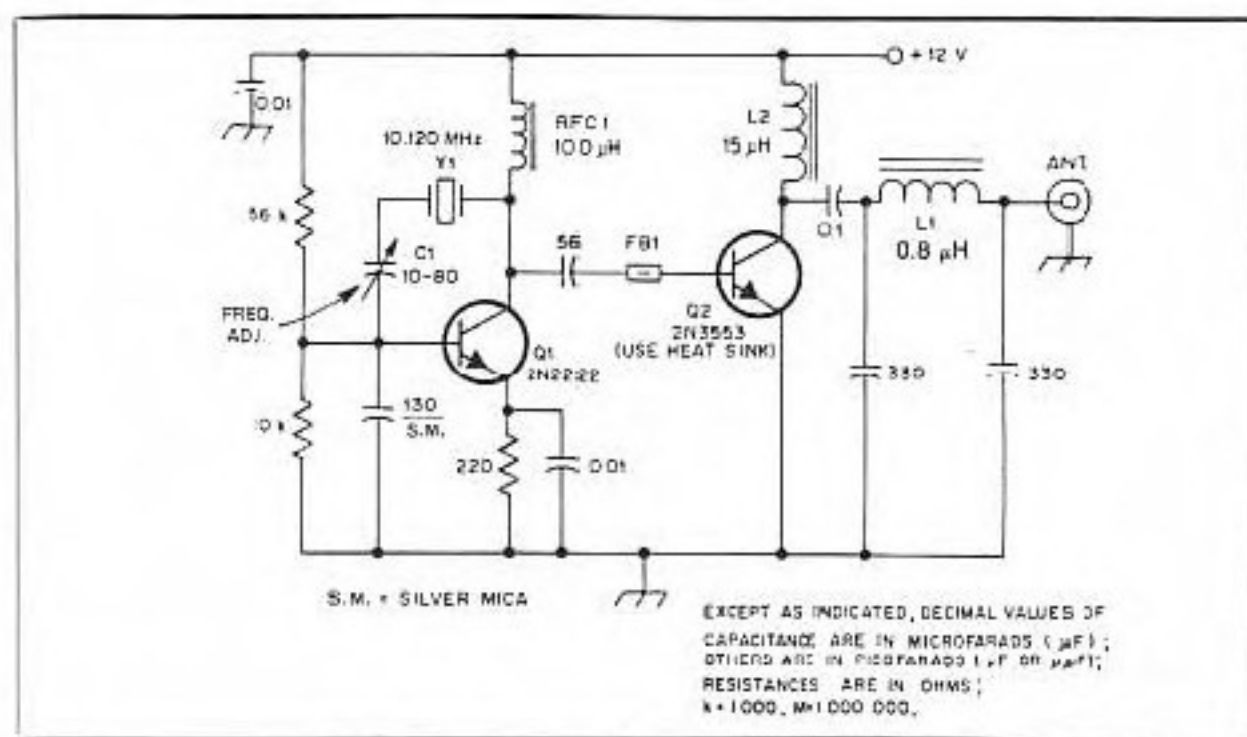

Fig. 1 — Schematic diagram of a simple 30-m transmitter built by KB4PY. Resistors are 1/4-W, carbon-composition types. Capacitors are disc ceramic, except C1.
You will note in Fig 1 that a TR (transmit-receive) circuit is included. Q3 is a PNP dc switch that applies operating voltage to Q1 when the key is closed. Key closure shorts the base of Q3 to ground, and this causes it to conduct. During conduction, +12 V is connected to Q1 through the junction of Q3. The keyed +12 V is routed also to NPN switch Q4. This transistor also conducts when the key is closed. At full saturation the Q4 collector-emitter junction closes and this shorts the receive antenna line to ground through Q4. D2 and D3 also accomplish this function, but leave a residual RF voltage of 0.7 V RMS on the receive line. The shunt-diode
Waveform shaping is accomplished in Fig 1 by means of C16, C17, R11 and R12. Bypass capacitors in the keyed circuit (such as C5 and C15) also affect the shaping.
The shaping-network values in Fig 1 ensure a keyed waveform that is clickless, but hard enough to give "presence" to the CW note. The frequency-control values for the VXO in Fig 1 prevent the signal from sounding chirpy when the VXO is keyed by Q3.
Fig 1—A schematic diagram of the QRP transmitter for 30-meter operation. Fixed-value capacitors are disc ceramic. Inductor cores are available from Amidon Associates or Palomar Engineers.^{1,2} The enclosure is from Radio Shack® (RS-270-251), and the circuit board is from Circuit Board Specialists.³ An etching pattern for this circuit appears on p 11.
□ Fig 1 shows an inexpensive transmitter for the 30-meter band. The combination of excellent propagation characteristics and a relatively low QRM level on this band make solid communication routine at QRP levels. The circuit shown was adapted from a W7ZOI design shown in "Experimenting for the Beginner" by Doug DeMaw, W1FB, in the September 1981 issue of *QST*. The transmitter can be put on 30 meters with relative ease.
came up with the one shown at Fig. 1. The circuit is simple and inexpensive. It uses fundamental-type crystals in FT-243 holders, which are easy to obtain from a variety of sources. The transmitter output is almost 1.5 W, and the harmonics are 34 dB down from the fundamental. With a reasonably stocked junk box the total cost for this transmitter should be under \$10.